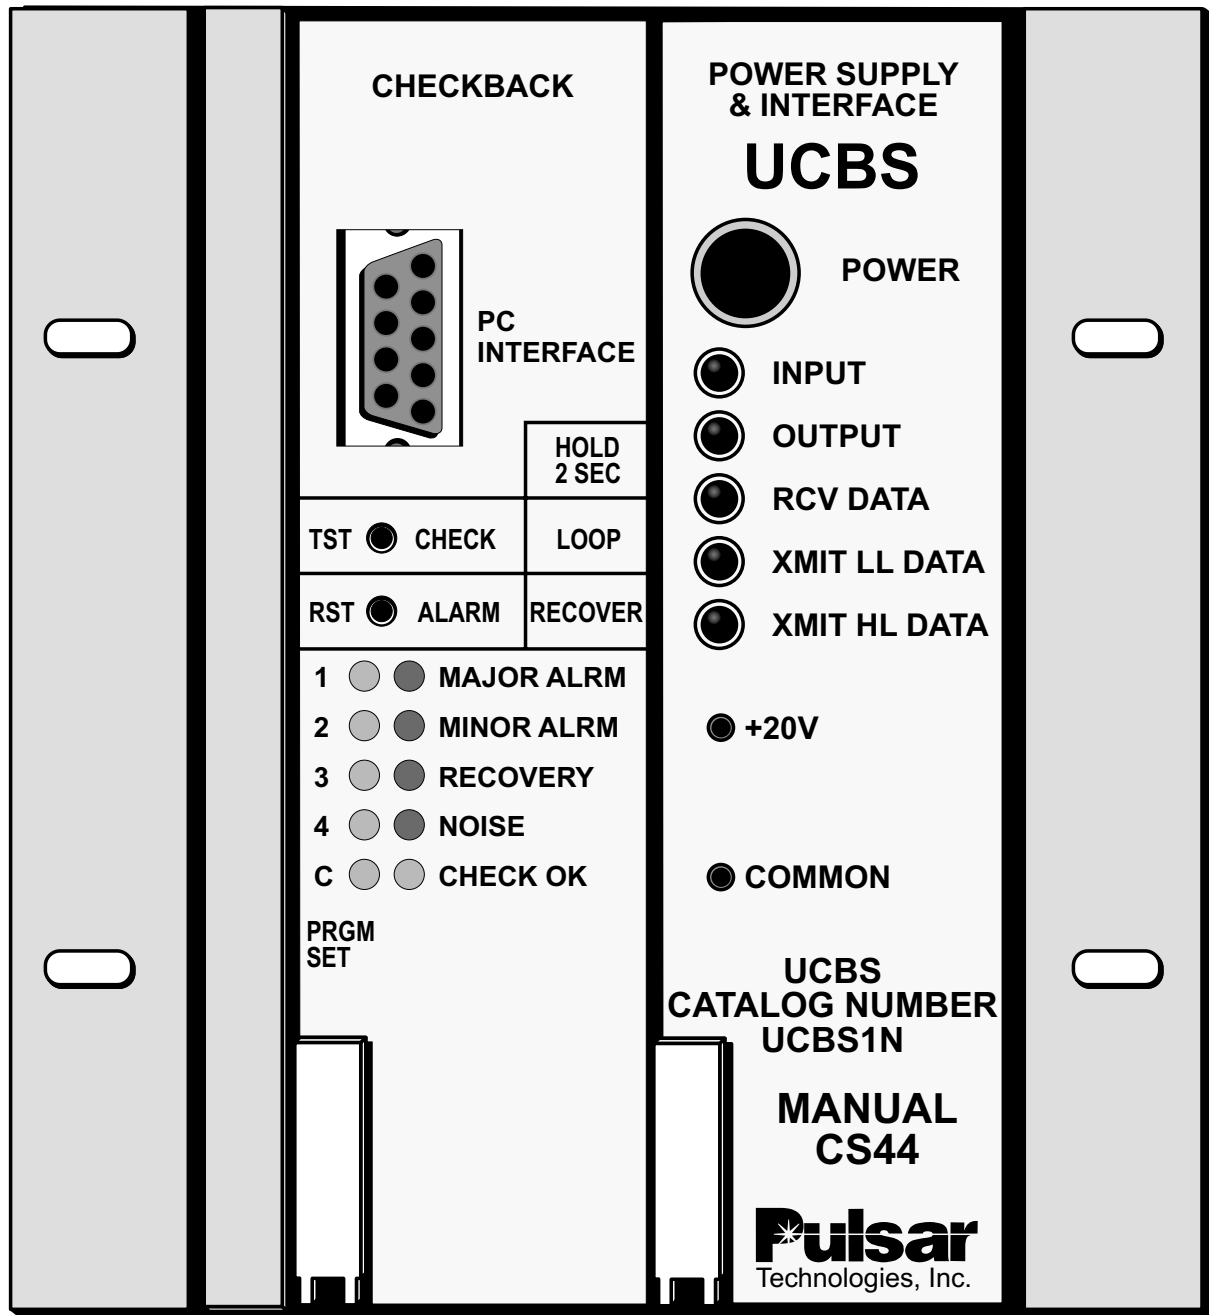
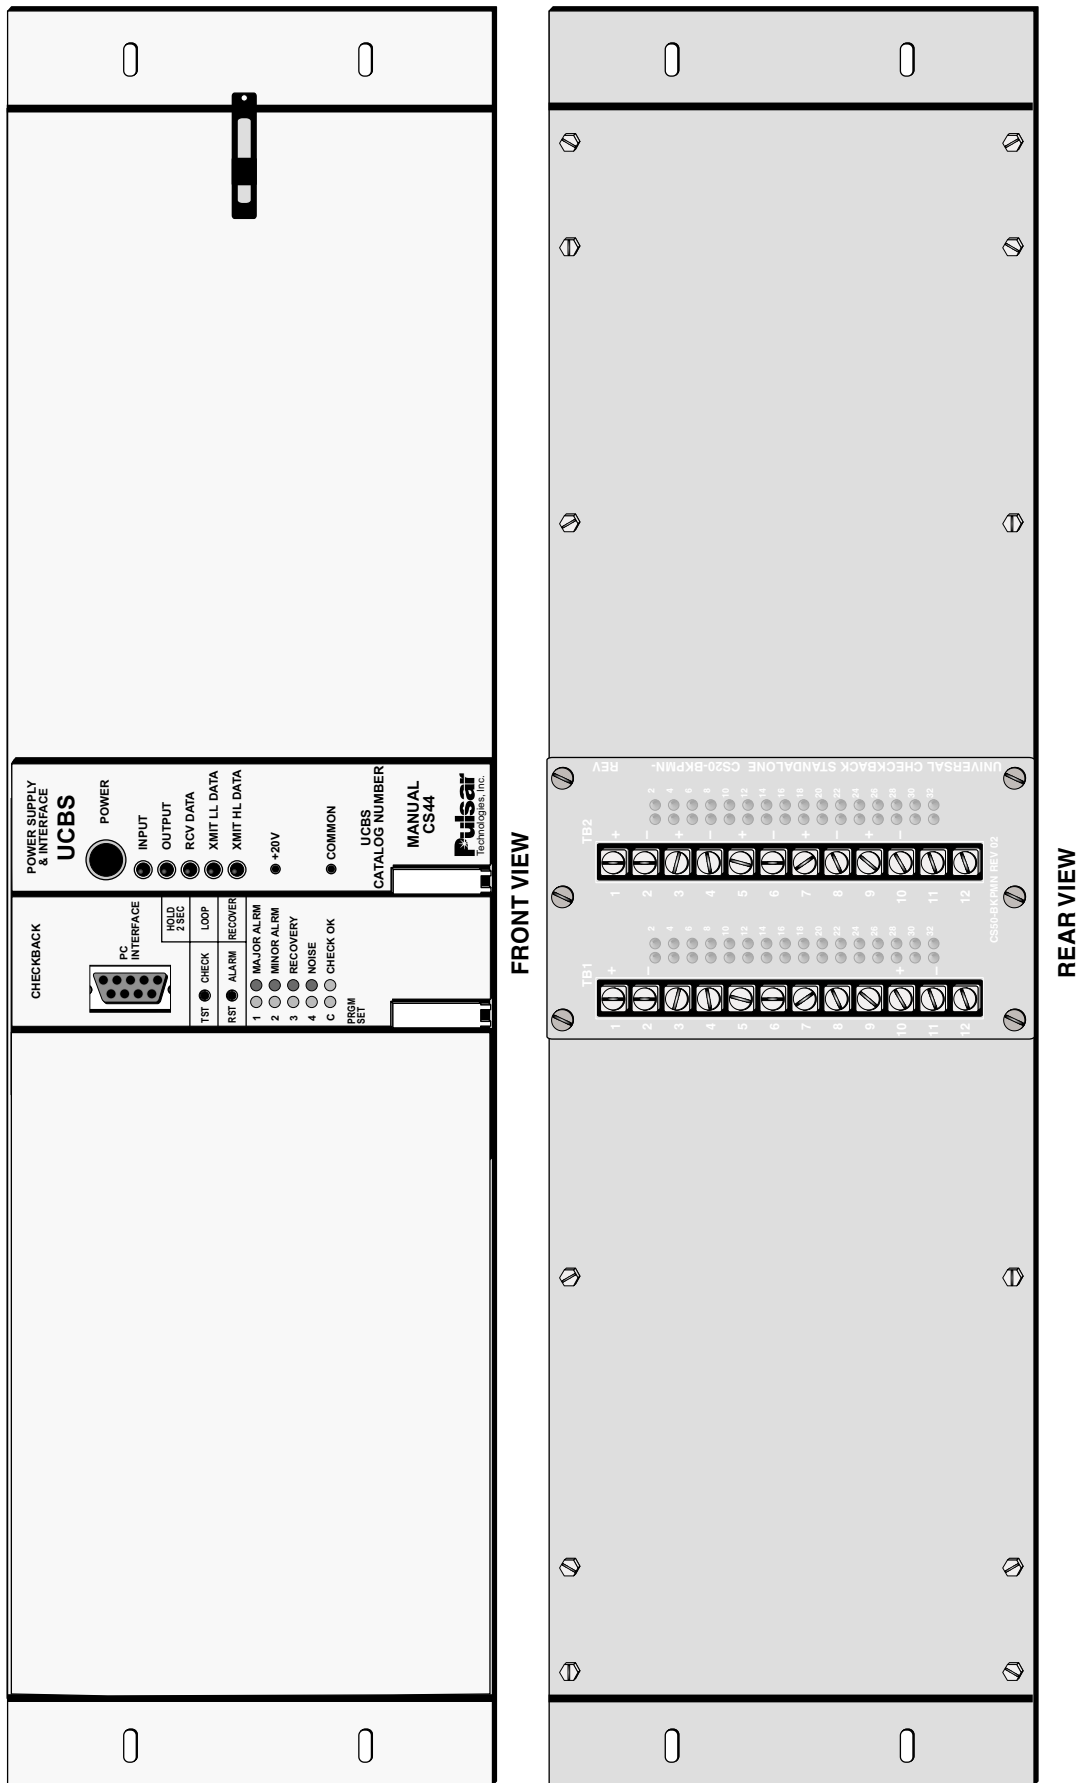

Figure 1-2. Universal Checkback Assembly (Front view).
Figure 1-5. UCBS 19" Wide Rack Mount Chassis (Front & Rear View).
- Chassis, 3-inch or 19-inch (see Figures 1-2, 1-4, 1-6, and 1-7 for the 3" chassis and Figures 1-5 and 1-8 for the 19" chassis)